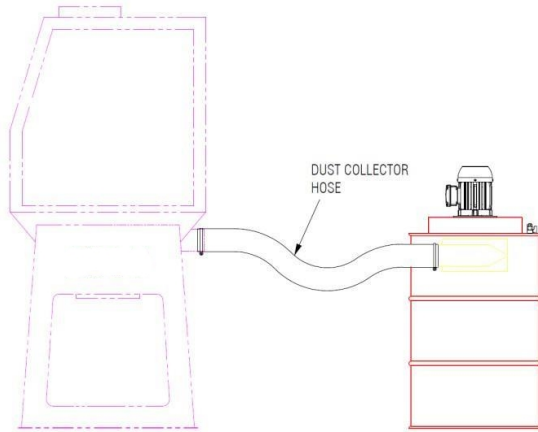

Figure 7
- 3.5 Position the dust collector within approximately 1.5m of the rear of the blast cabinet. Then simply slide the hose over the cabinet spigot, and clamp firmly in place using the worm drive clamps provided. Repeat this process with the dust collector inlet spigot. See figures 7 – 9.